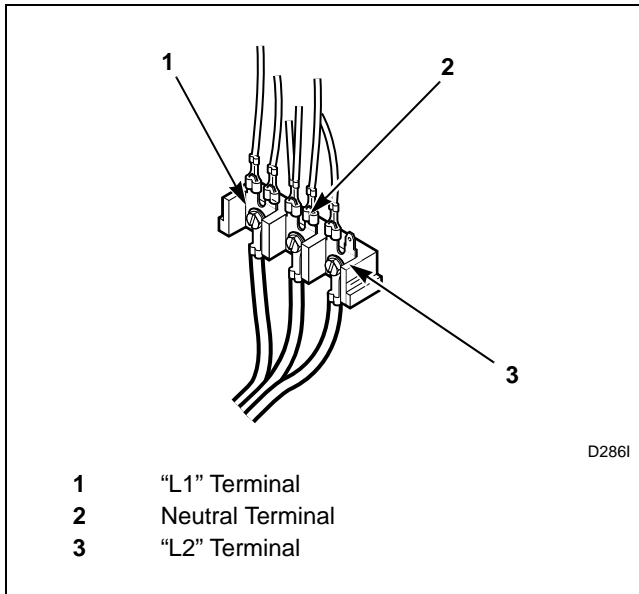

Figure 9
- Use the three screws from the accessories bag to attach the power cord wires to the terminal block. Refer to *Figure 9*.